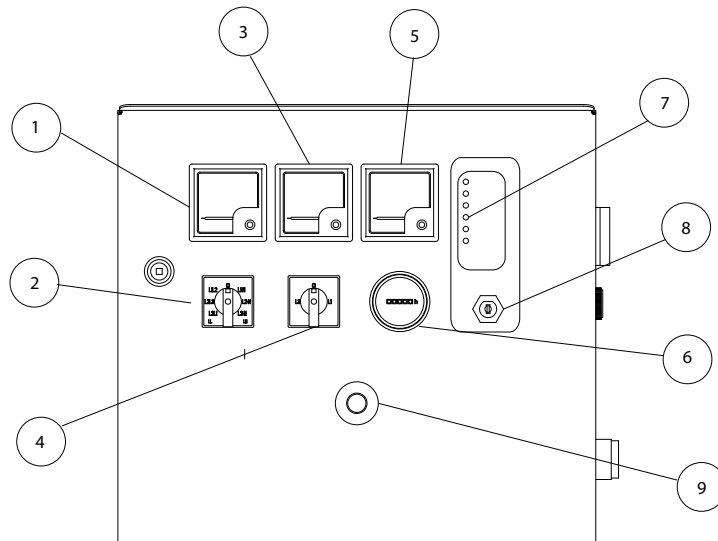

Figure 5a – Layout of 1002T Series Control Panel
Figure 5a shows typical diagrams of each of the control panels. The addition of optional equipment will add items to the panel so the panel fitted on the generator set may be slightly different from the typical ones shown. The following descriptions explain the function of each item on the panels:
- In the event of low battery voltage the LED will indicate on the 1002T PCB (see Figure 5a – 8). There is no battery voltmeter on 1002T panel.